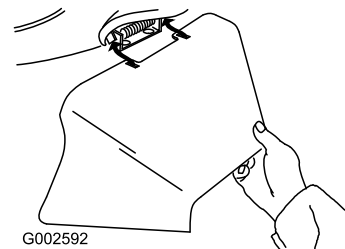

Figure 36
3. Install the side discharge chute and close the door onto the chute (Figure 36).